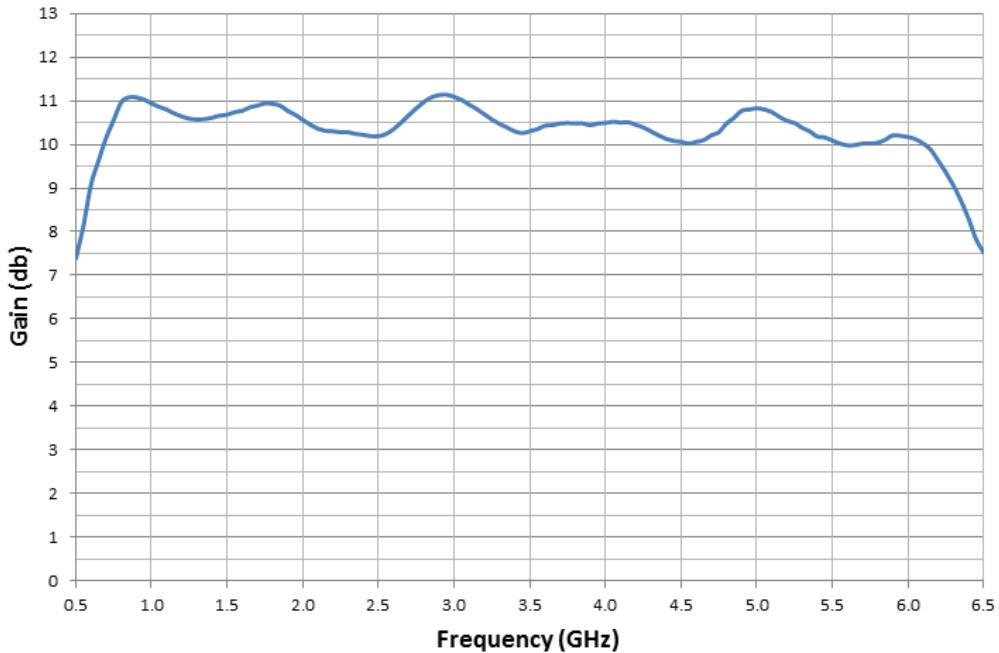

Figure 4-3. Typical A2 Driver Quad Amplifier Response
3. If the gain response for the A3 Quad Amp is normal, then check the gain response for the A2 Driver Quad Amp. Typical gain response for the A2 module is shown in Figure 4-3.